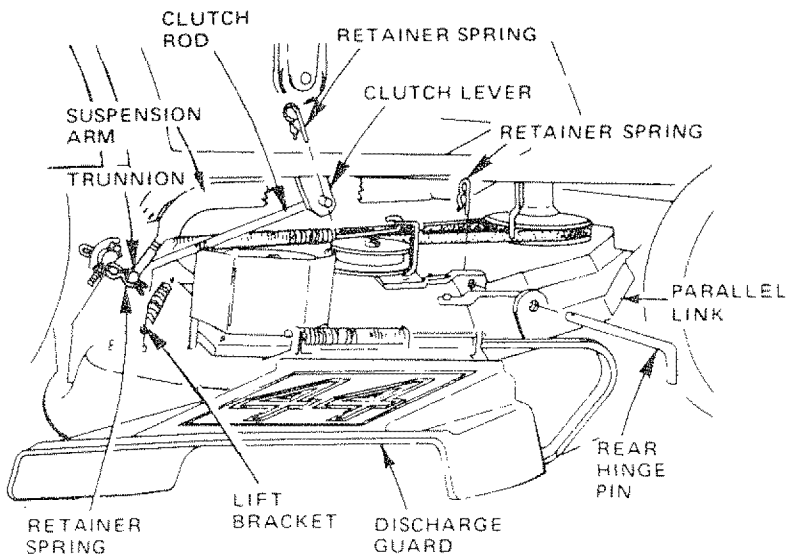

FIGURE 7
- Install rear hinge pin through mower lift brackets and parallel link (Fig. 7). Secure with retainer spring.
- Install clutch rod in clutch lever (Fig. 7). Secure with retainer spring.
- Slide trunnions through rear lift bracket holes and secure with retainer spring (Fig. 7).